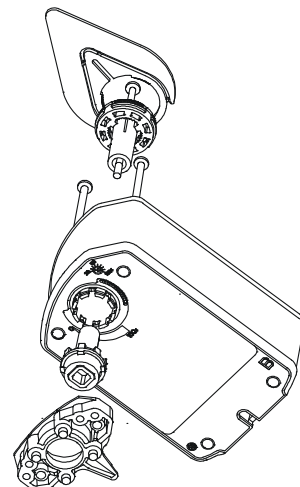

Figure 11: Removing the Linkage
3. Remove the linkage from Side B (Figure 11).